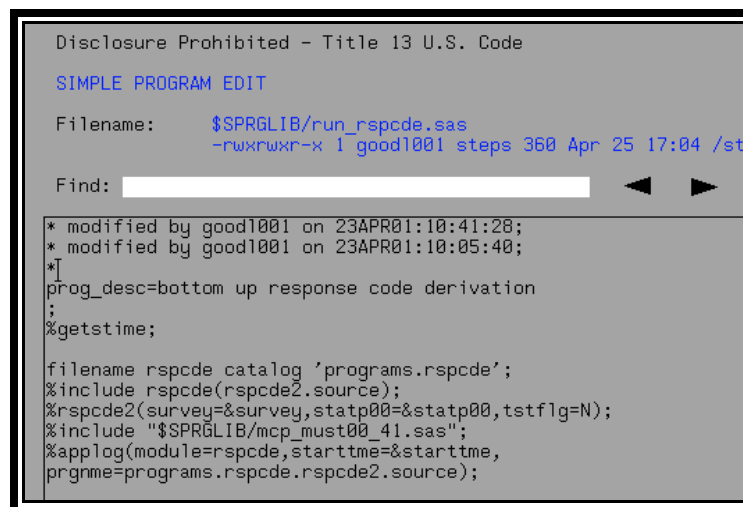

Figure 2.5.1e Edit program option from Survey Specific Programs screen
5. In order to run the SAS Script as part of another script, the destination script has to be edited to include the mass correction script. For example, in the illustration above for generating a script for MUST00 to run nightly from the script populating the RSPCDE field, the destination script, which populates the RSPCDE field, must be edited to include the mass correction script (\$SPRGLIB/mcp\_MUST00\_41.sas), which populates MUST00 (See figure 2.5.1e). This editing can be done by your survey area's production programmer or StEPS development programmer. The program to run the mass correction script by itself or as part of another script is accessible from the 'Survey Specific Programs' screen under the RUN PROCESSES module.